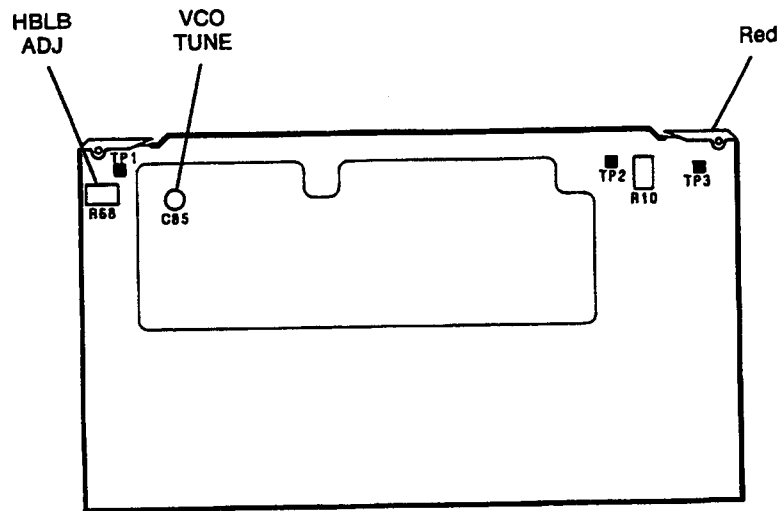

Figure 10. High/Low Band Adjustments Locations
- To adjust, turn VCO TUNE (see Figure 10) to position the left half of the trace to 0 ± 125 mV.